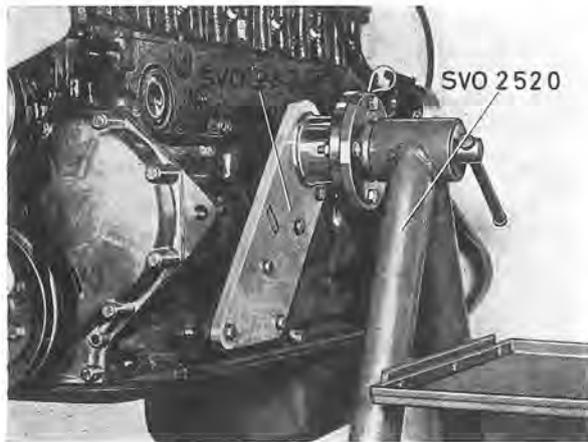

Fig. 2-14. Engine on stand
1. Place the engine on stand SVO 2520 with fixture SVO 2820. See Fig. 2-14. Check that the oil has been drained off.